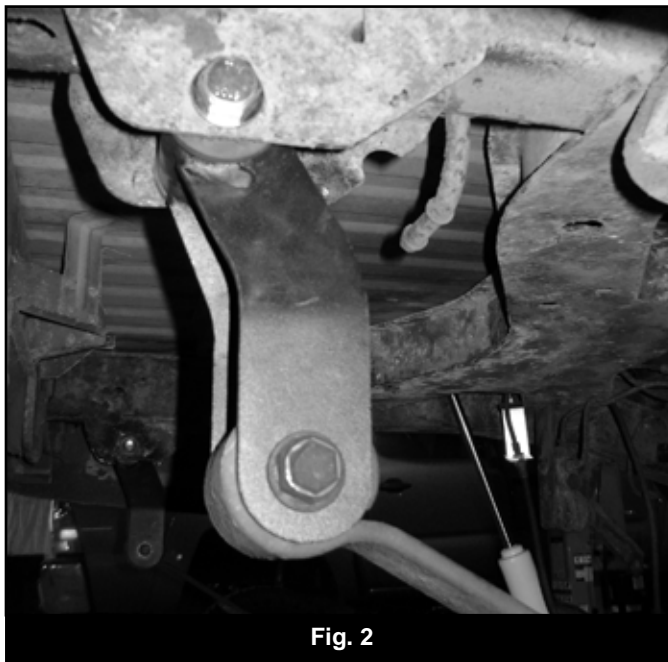

Fig. 2
7. Install the new shackles in the OE locations with the original hardware. Leave the spring and shackle bolts loose at this time. The grease fittings should be toward the front of the vehicle (Fig. 2).